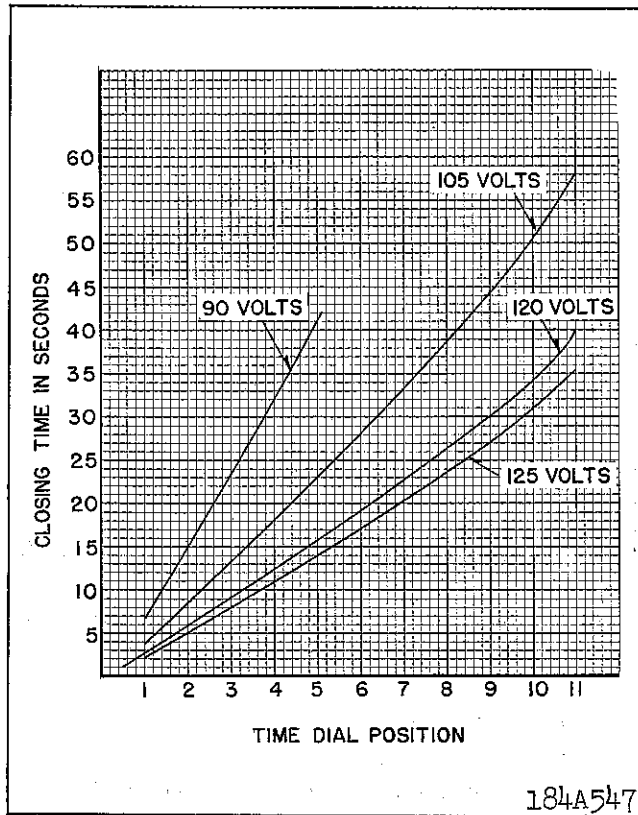

Fig. 4. Typical Time Curves of the Timer Unit of the 120 volt Type CRN-1 Relay. Proportional voltage apply for the 208 volt relay.
The timer unit is rated at 120 or 208 volts, 60 cycles. The minimum trip value is 54% of rated voltage. The continuous overload capacity is 110% of rated voltage. Characteristic time curves are shown in Fig. 4 for various voltages and time lever settings.
it is adjusted by the time dial position. Fig. 4 gives a curve of time delay vs time dial setting for various impressed voltages. Time is approximately proportional to time dial setting.
3. Time Curve — Fig. 4 shows the time curve for the CRN-1 relay. With the time dial set to the indicated position, apply the voltages specified and measure the operating time of the relay. The operating times should equal those of Fig. 4 plus or minus 5 percent.